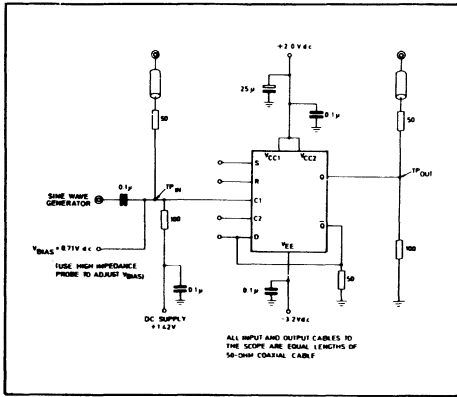
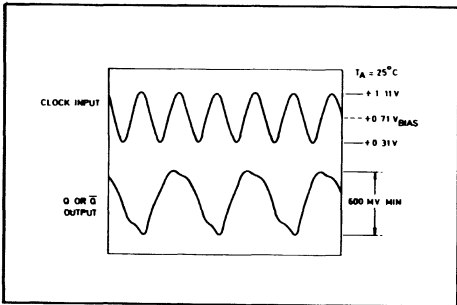

Fig. 7 Toggle frequency test circuit
Fig. 8 Toggle frequency waveforms
2. The device ceases to toggle (divide by two). V_{Bias} is defined by the test circuit Fig. 7 and by the waveform in Fig. 8.